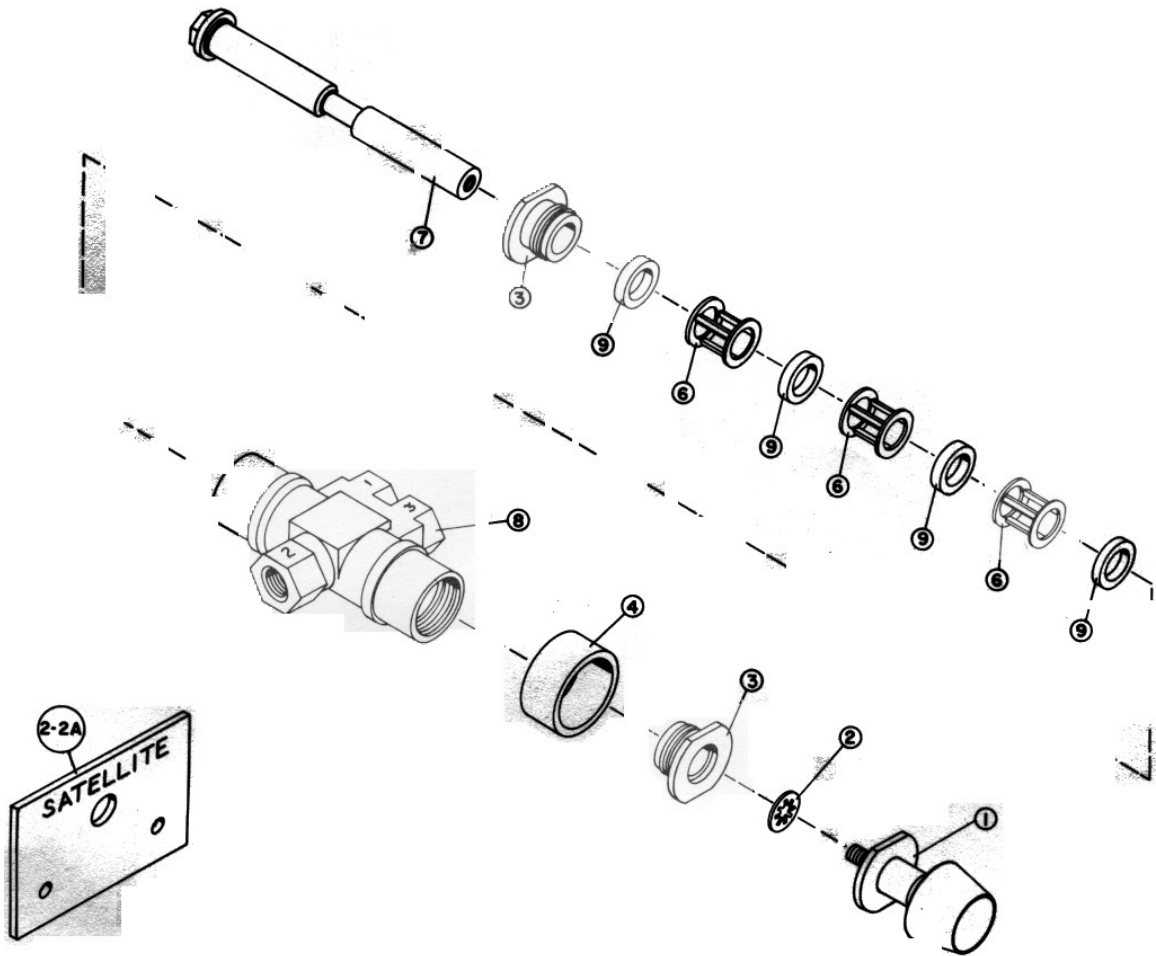

Figure 7-3 Control Valve
- Figure 7-3 Control Valve Assembly